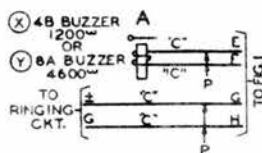

FIG. 1
- D.4 Winding designations are added for (N) relay, fig. 1.
- 1.1 The auxiliary signal relay shown in Fig. 1 is used to control the audible signal to the attendant when the buzzer key is turned on, whenever a call is originated from any station line, central office trunk or tie trunk circuit, or upon disconnection by a station line or tie trunk circuit connected to a rear cord.
NOT PROVIDED	Z IN FIG. 1